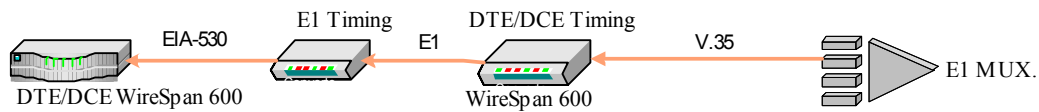

Figure 1-7 DTE/DCE timing mode
- DTE/DCE timing mode:** The E1 transmit signal is locked to the recovered DTE or DCE receive clock, as shown in *Figure 1-7*. And the other equipments must operate on the recovered E1 clock signal. This is usually the timing mode selected for E1-Mux. application.